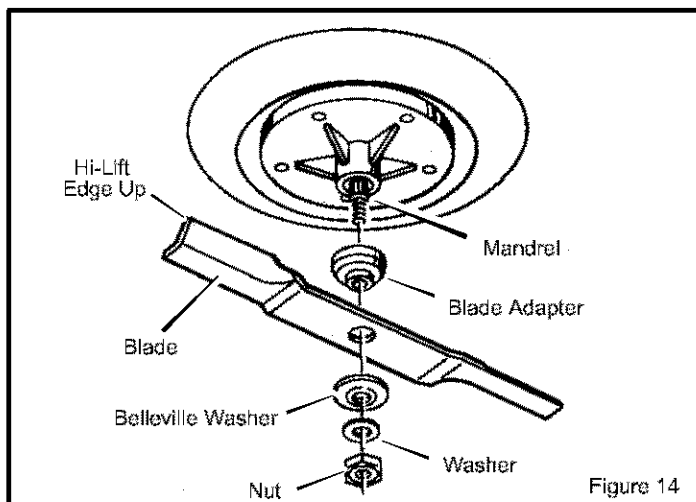

Figure 14
4. Remove the nut, washers, and blade (Figure 14).
1. Mount the blade and blade adapter on the mandrel (Figure 14).